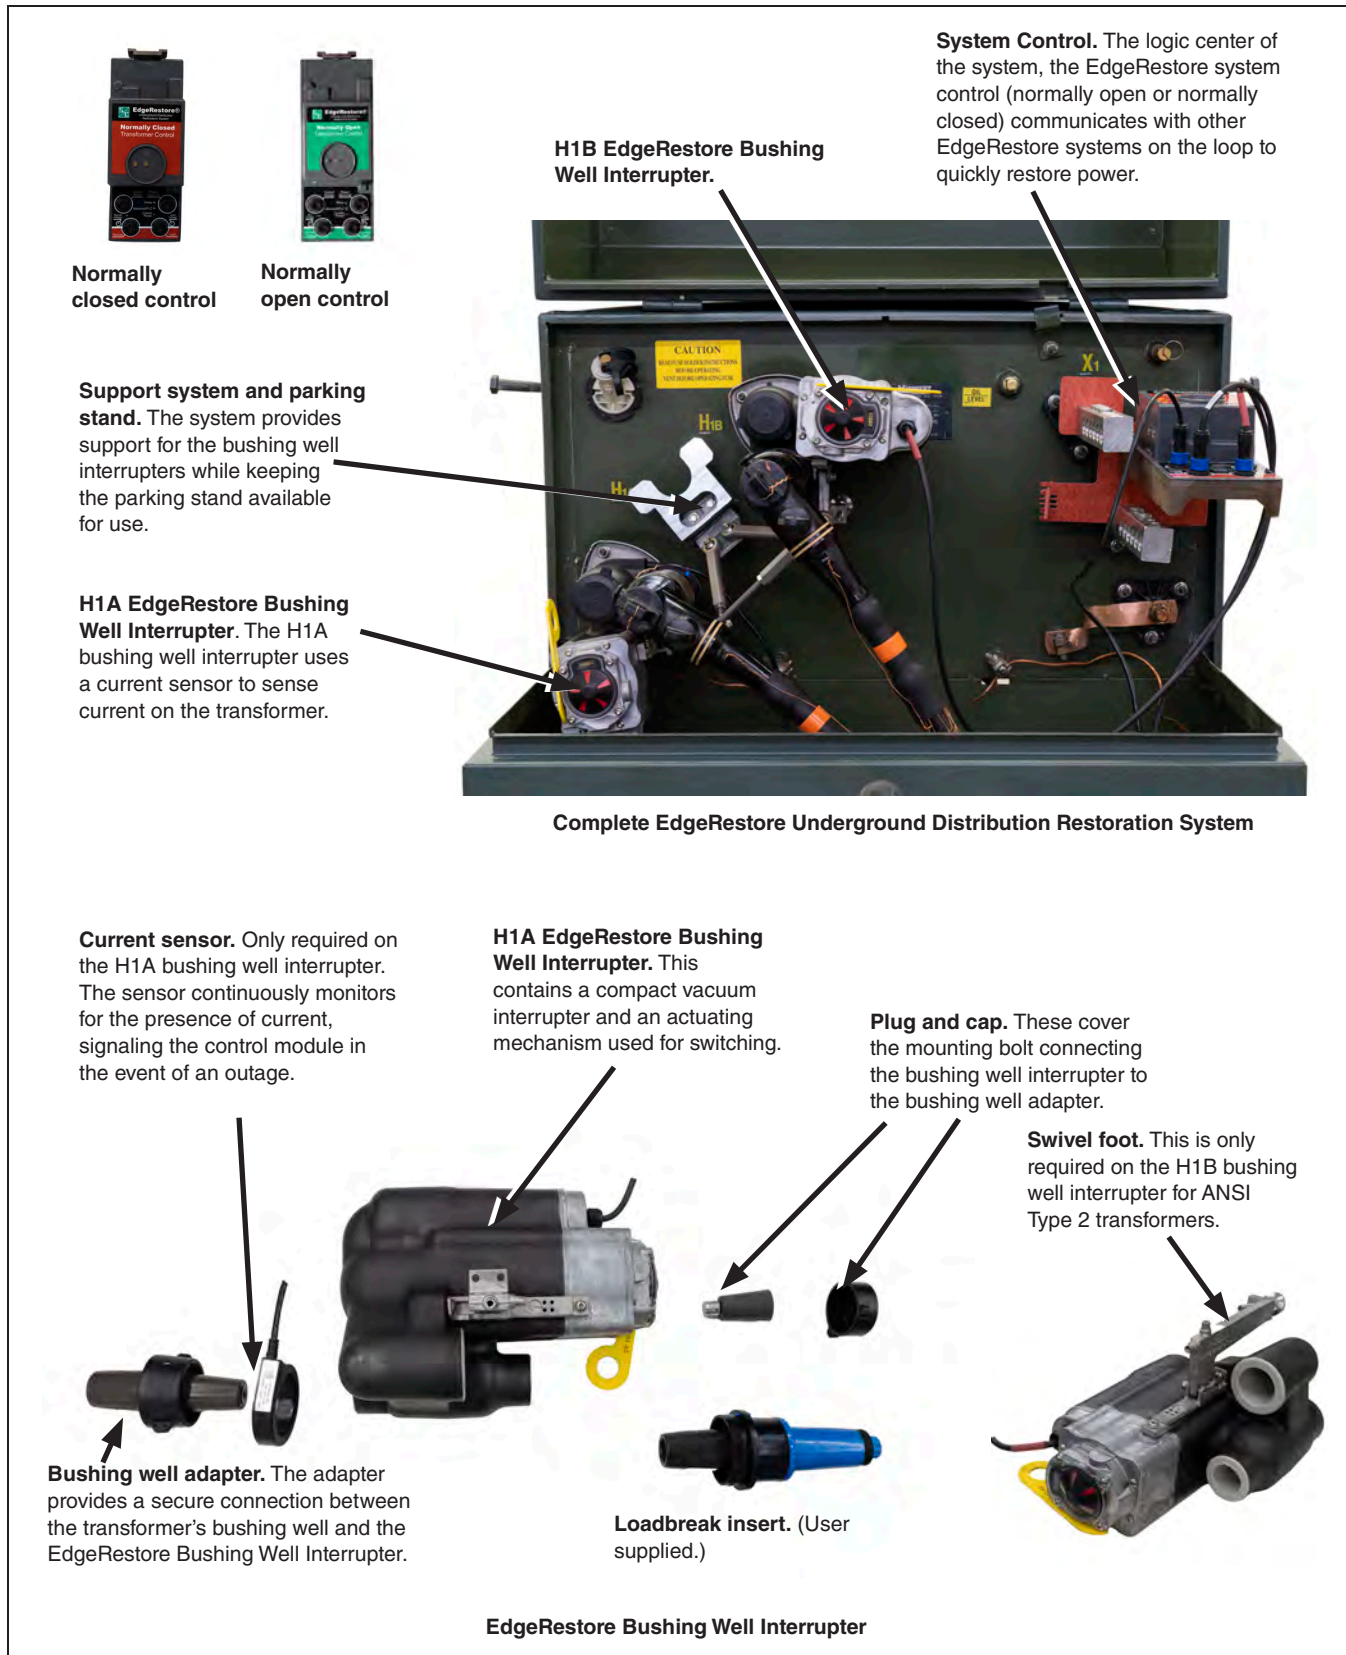

Figure 1. EdgeRestore Underground Distribution Restoration System components.
The EdgeRestore Underground Distribution Restoration System is installed in pad-mounted distribution transformers. The EdgeRestore systems will work together to isolate faults and restore service using peer-to-peer communications. Become familiar with the parts of the installation. A completed installation is shown in Figure 1 on page 8.
- STEP 3.** Clean the bushing well adapters for the H1A and H1B bushings with a soft cloth. The bushing well adapters are included in the installation kit. They look like loadbreak inserts but are shorter and gray. See Figure 1 on page 8.